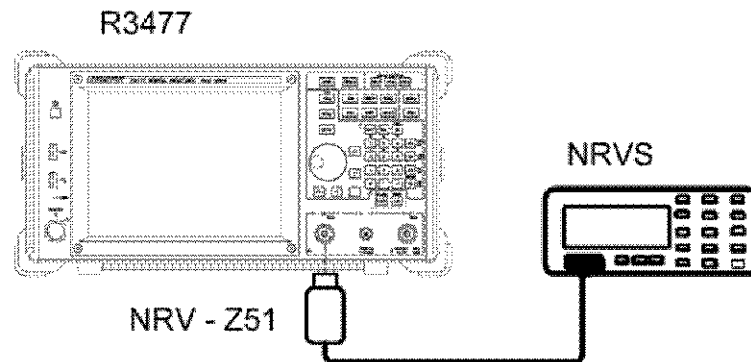

Figure 2-22 TG Output Level Accuracy Test
5. Connect the instruments as shown in Figure 2-22.